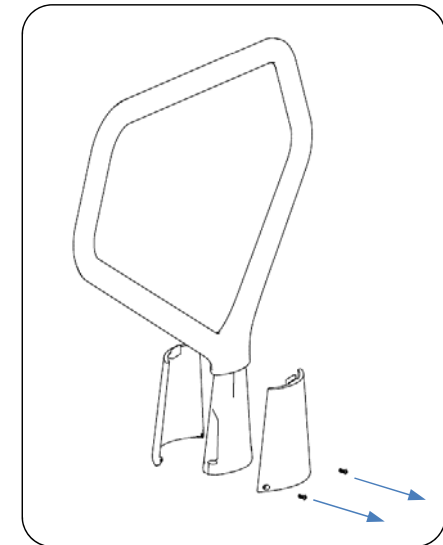

Fig. 2 - remove cover plates
1. Remove cover plates. See Fig. 2. Set aside on non-marring surface. Retain the two screws used to secure the cover plates together.